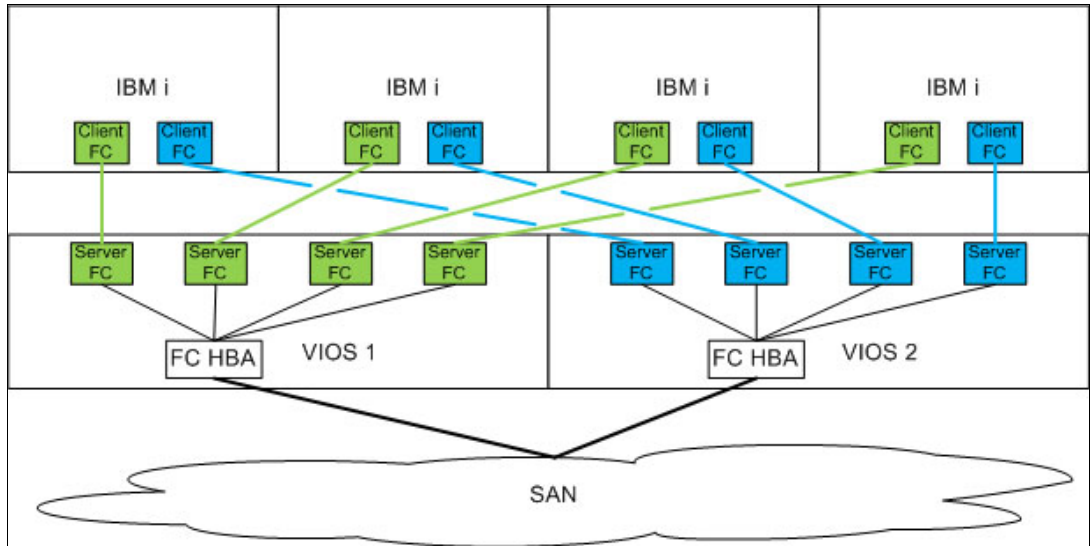

Figure 3-14 N-Port ID virtualization
Figure 3-14 shows four IBM i partitions that are hosted by a dual VIOS configuration. Each IBM i partition uses two virtual Fibre Channel (FC) adapters to get redundant storage paths through each VIOS partition.